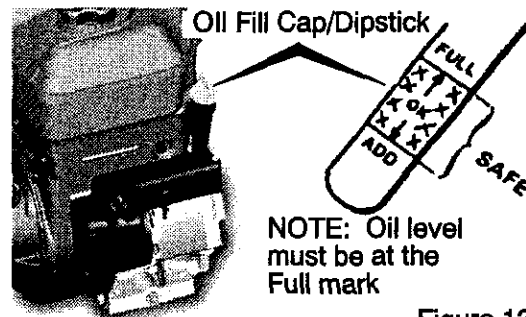

Figure 13
- If necessary, add oil until the oil reaches the FULL mark on the oil fill cap/dipstick (see Figure 13). Do not add too much oil.